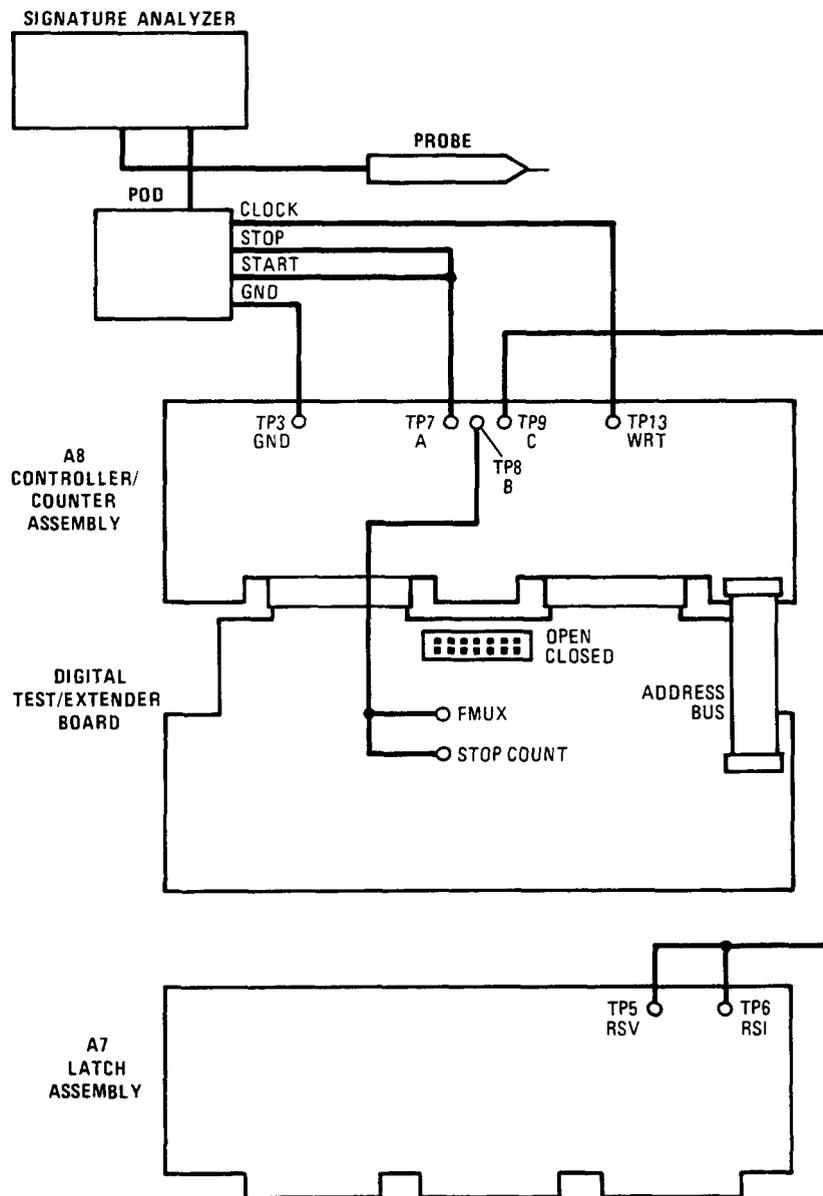

Figure 8D-6. Controller/Counter Assembly Troubleshooting Setup, J1 Step 2
2. Interconnect the Controller/Counter Assembly, the Latch Assembly, the extender board, and the signature analyzer as shown in Figure 8D-6. Set the switches on the digital test/extender board to the OPEN position.